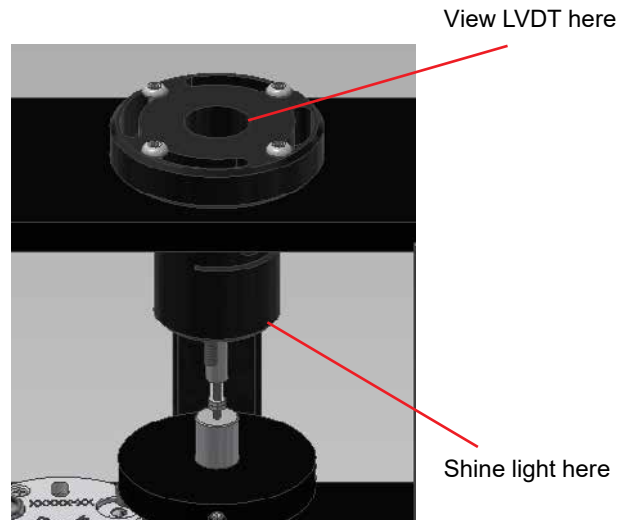

Figure F.1 - LVDT Shaft
- Shine a flashlight at the lower end of the LVDT shaft. This light reflects up the shaft, so the LVDT can be viewed from above. See Figure F.1.